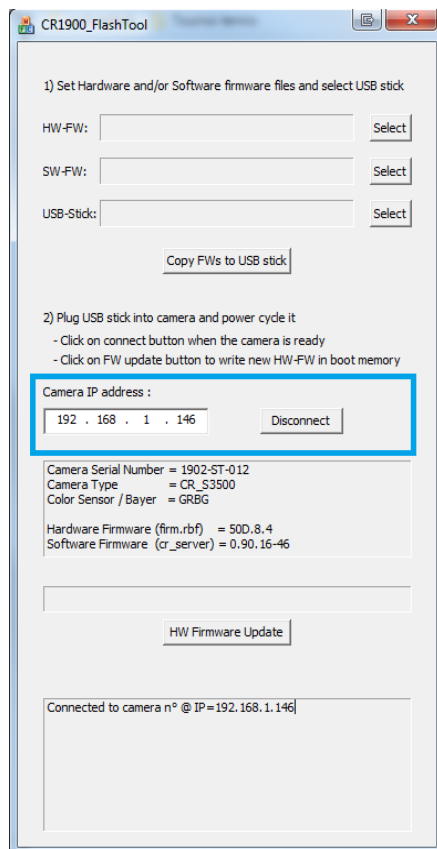

Figure 31: Connected to camera
3. Set camera IP and when the camera network is established click on connect button (see Figure 31)